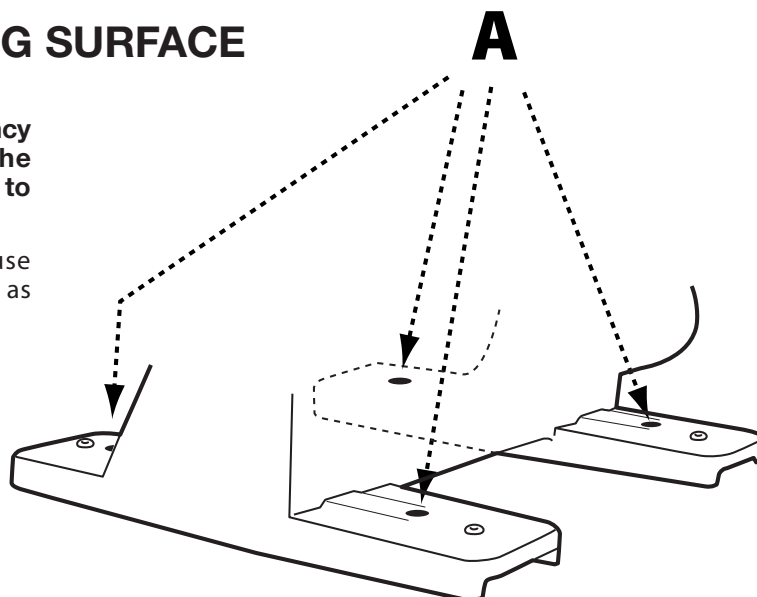

FIGURE 3
To secure the sander to the supporting surface, use screws or bolts and nuts through the four holes (A) as shown in Figure 3.